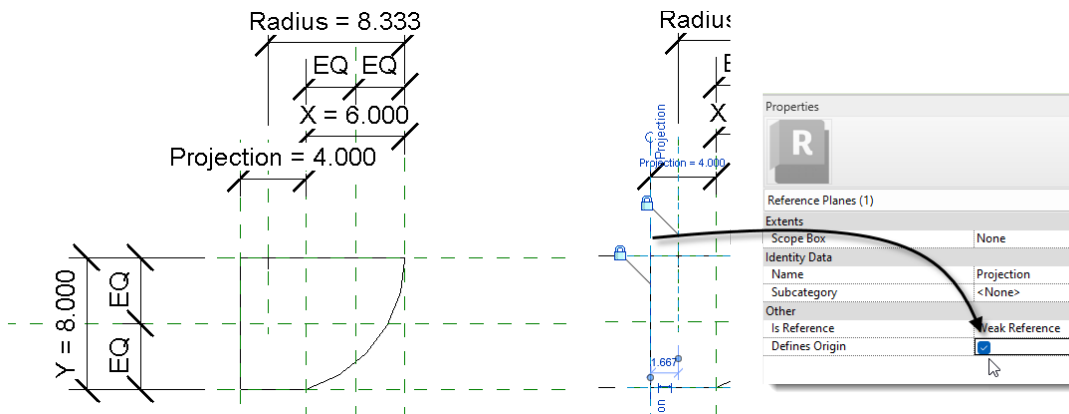

Figure 25—Create the profile lines
11. Draw vertical and horizontal lines locked to the reference planes for the leftmost edge (Projection reference plane) and the top and bottom (see the left side of Figure 25).
- ⇒ Select the Projection reference plane and then on the Properties palette, check the Defines Origin checkbox (see the right side of Figure 25).